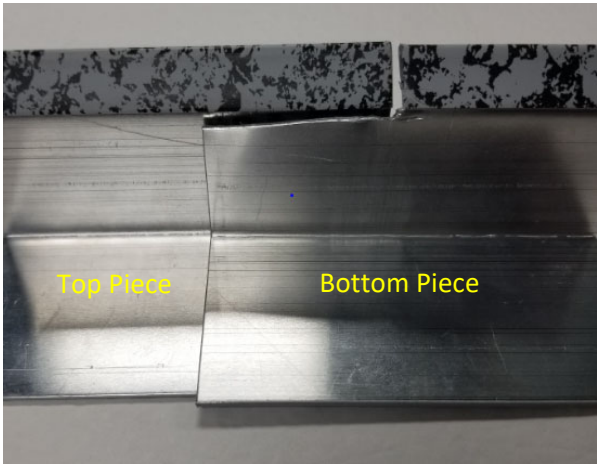

Figure 2 – Step 4
Step 04 Fit the notched piece back under the top piece and line up the but ends of the hem on both pieces (*Ref. Figure 2*)